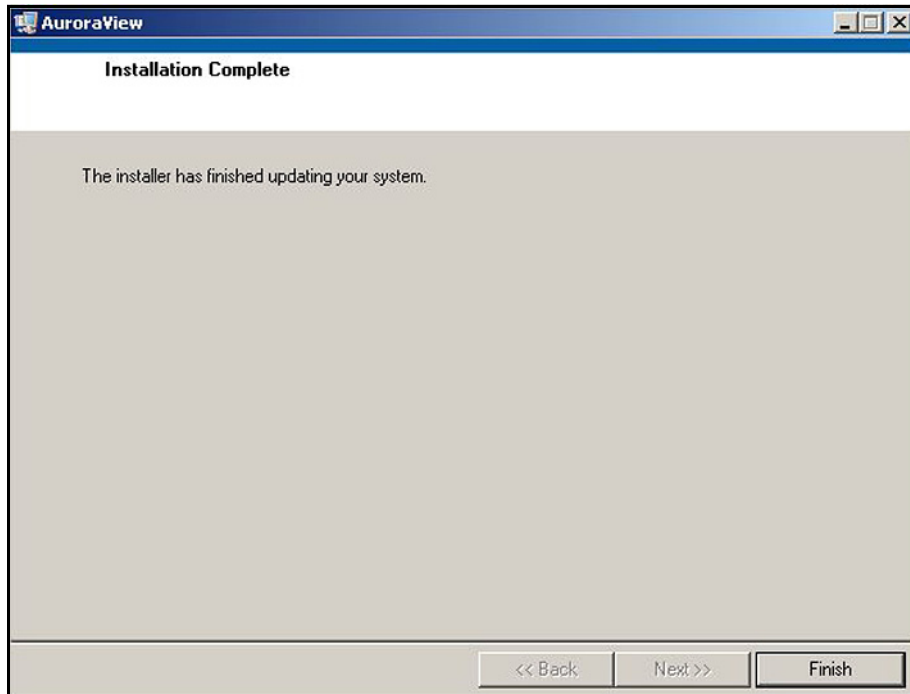

Figure 58: Installation Is Complete
9. The screen shown in *Figure 58* below appears when the installation is complete.